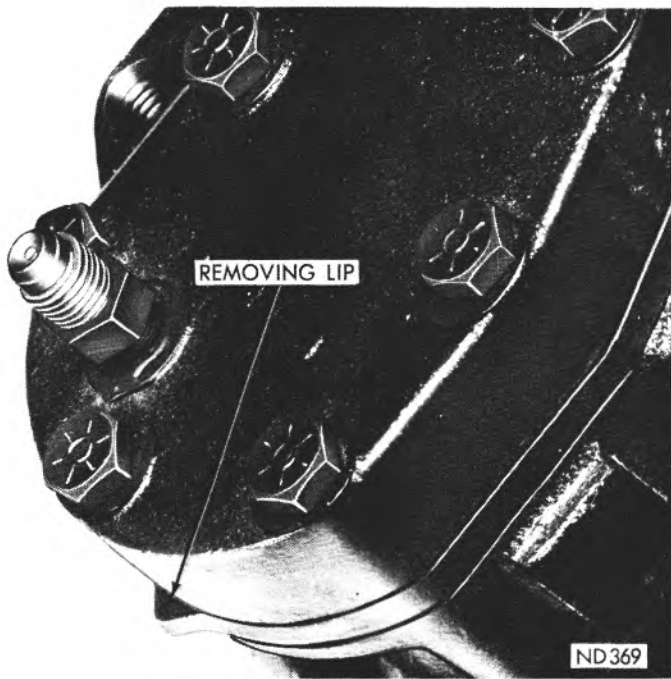

Fig. 36—Valve Plate and Head Removing Lip
(1) Remove the cylinder head bolts, head and valve plate assembly. If plate does not separate from head, tap the removing lip on the valve plate lightly with a plastic hammer (see Figure 36). Do not pry apart.